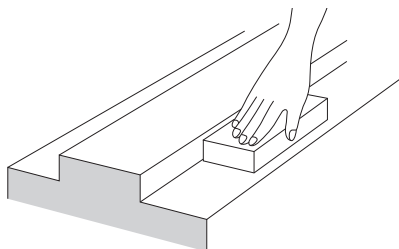

Fig.21
(1) Remove burr or knots from the LM rail mounting surface of the base using an oil-stone. (Fig.21)